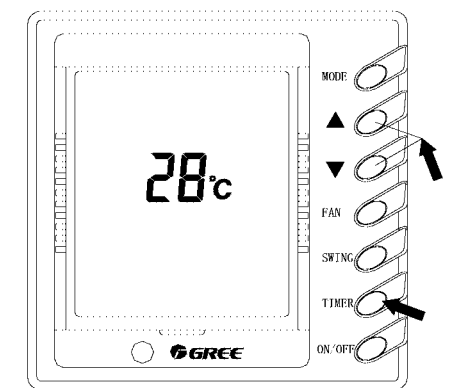

Fig2
1) On/Off switch (Fig.2)
NOTE: Fig.2 shows the closedown status after power on. When the communication is normal, both at the running and stopping status will display the environment temp. Here, there is no“graticule line” on the LCD of Fig.3, it shows the unit is closedown..